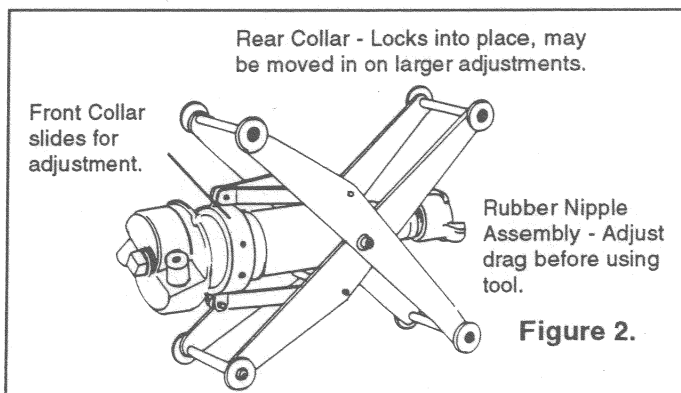

Figure 2.
2.4 Small Centering Carriage: (For 8" to 17" I.D. pipe) The small centering carriage (Figure 2) fits on the Spin-Blast Tool as a single assembly and adjusts to the pipe I.D. by a scissor action.